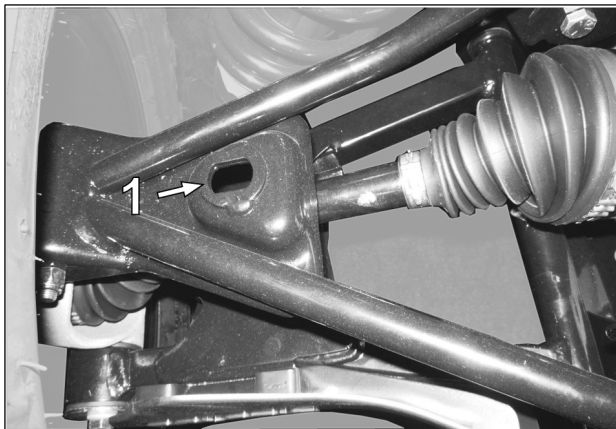

Fig. 15
15. Position protector box assembly over oblong hole (1), at center of upper suspension arm. See Fig. 15